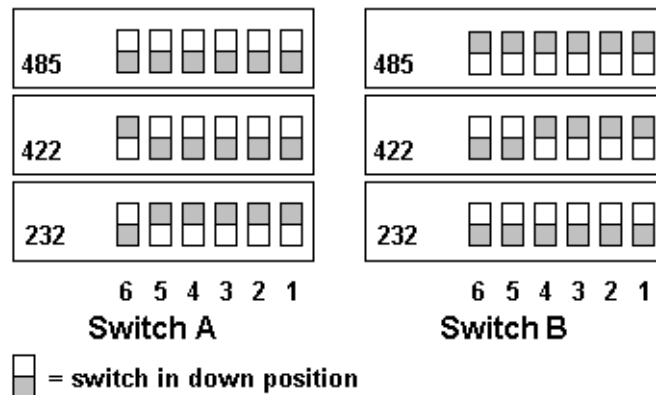

Figure 2-2 Dip Switch Settings
Figure 2-2 displays the settings for the COM2 port. A similar diagram is located on the side of the EP PowerStation next to the DIP switch cutout.
1. Choose the appropriate DIP switch settings from the diagram displayed on the side of the EP PowerStation or from *Figure 2-2*.